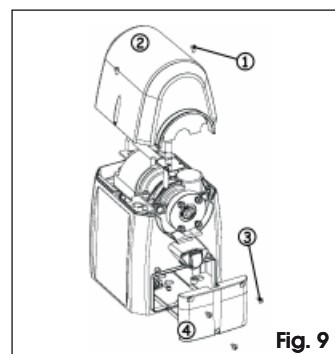

Fig. 9
1. Unscrew the securing screws of the upper housing (Fig.9 ref.①) and remove the housing (Fig.9 ref. ②)
2. Unscrew the three screws (Fig.9 ref.③) securing the board cover (Fig.9 ref. ④)